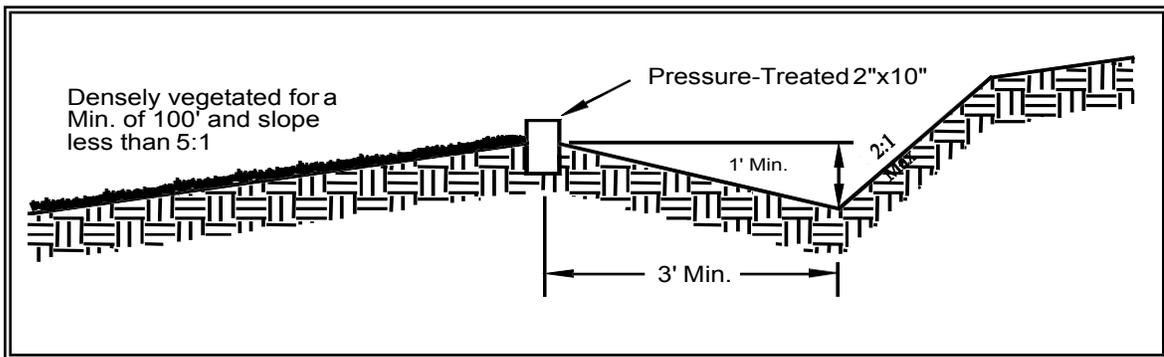

Figure 4.2.5 – Cross Section of Level Spreader
- Level spreaders, when installed every so often in grassy swales, keep the flows from concentrating. Materials that can be used include sand bags, lumber, logs, concrete, and pipe. To function properly, the material needs to be installed level and on contour. Figures 4.2.5 and 4.2.6 provide a cross-section and a detail of a level spreader. A capped perforated pipe could also be used as a spreader.